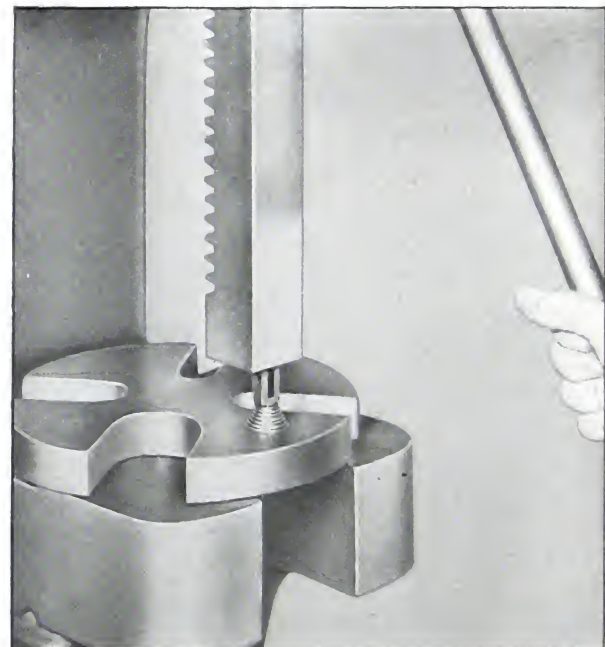

Fig. 5-131. Speeder spring and fork
11. To assemble the speeder spring and spring fork, press them together in an arbor press as shown in Fig. 5-131.